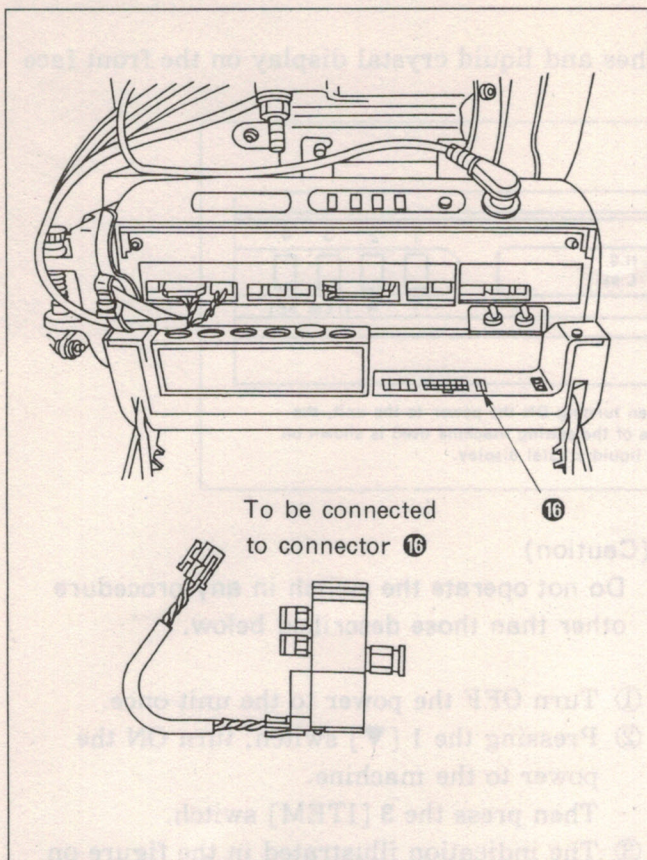

Fig. 5
- (6) Open the cover of the SC - 1, and connect the solenoid valve for the presser foot lifter to connector 16. (Fig. 5)